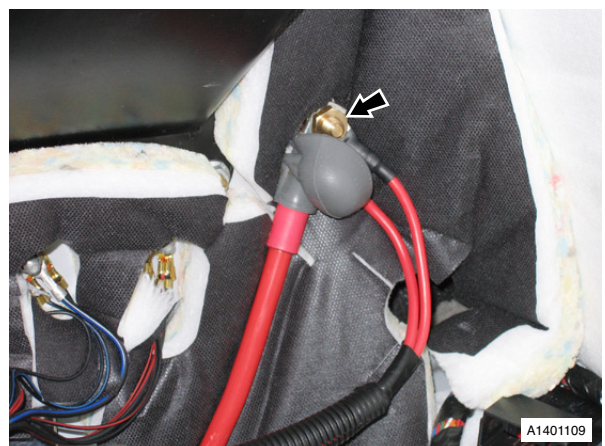

Fig. 1
11. Release cover, remove nut securing battery cables (x3) to bulkhead stud (see Fig. 1).